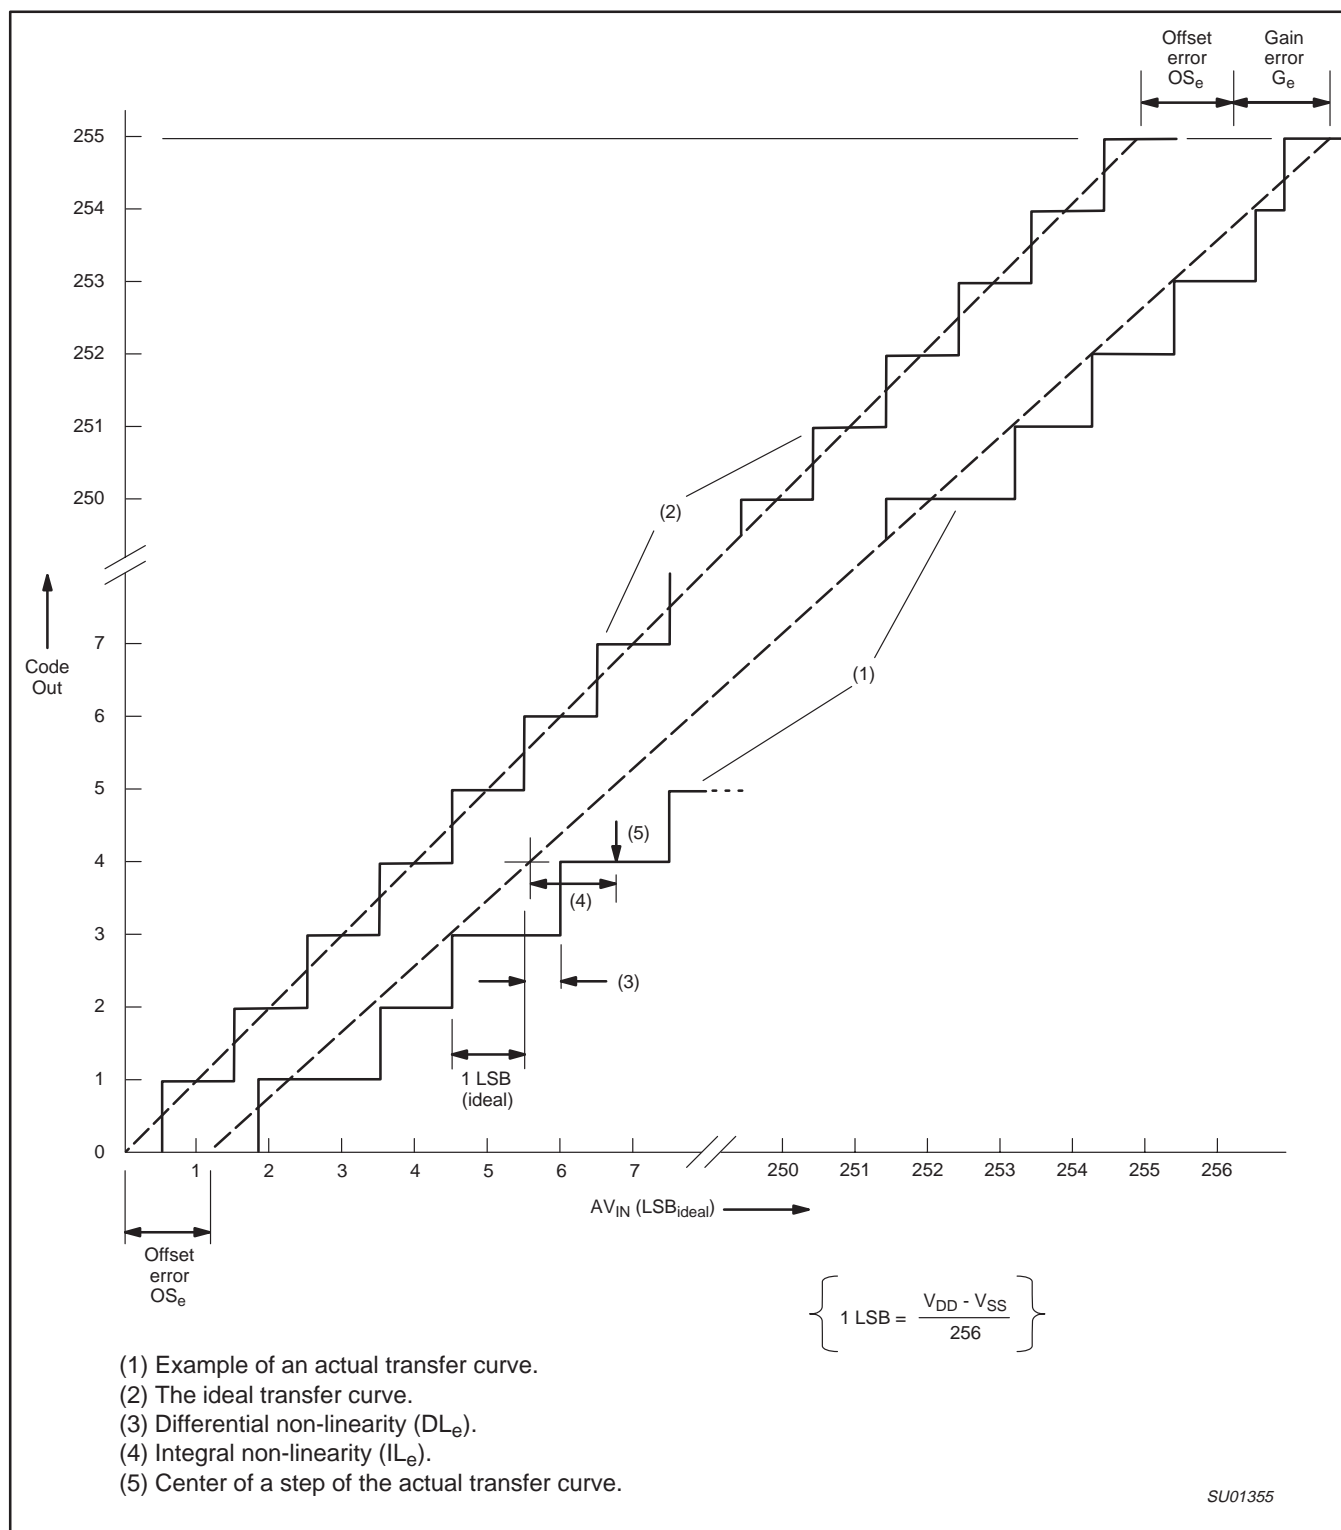

Figure 40. A/D Conversion Characteristics
- The differential non-linearity ( $DL_e$ ) is the difference between the actual step width and the ideal step width. See Figure 40.
- The integral non-linearity ( $IL_e$ ) is the peak difference between the center of the steps of the actual and the ideal transfer curve after appropriate adjustment of gain and offset errors. See Figure 40.
- The offset error ( $OS_e$ ) is the absolute difference between the straight line which fits the actual transfer curve (after removing gain error), and the straight line which fits the ideal transfer curve. See Figure 40.
- The gain error ( $G_e$ ) is the relative difference in percent between the straight line fitting the actual transfer curve (after removing offset error), and the straight line which fits the ideal transfer curve. Gain error is constant at every point on the transfer curve. See Figure 40.